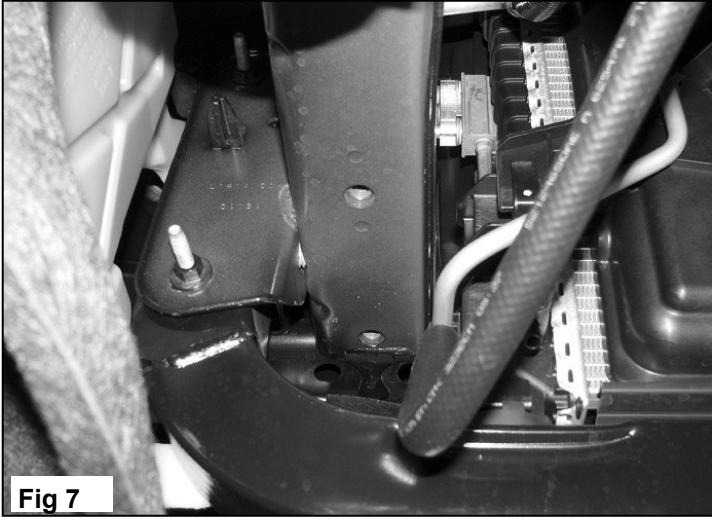

Fig 7
4. Select the driver side Mounting Bracket. Line up the (2) slots in the bracket with the (2) threaded holes in the bottom of the frame channel, (Figure 7). Bolt the Bracket to the frame channel with (2) M10 Hex Bolts (yellow zinc), (2) M10 Flat Washers (yellow zinc) and (2) M10 Lock Washers (yellow zinc), (Figure 8). Do not tighten hardware at this time. Repeat this step for passenger side Bracket installation.